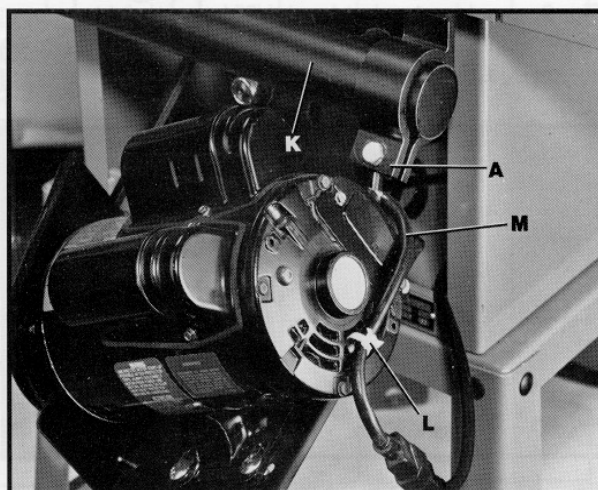

Fig. 13
1. Using a tie strap (L) Fig. 13 (not supplied), tie the switch cord (M) to the motor end bell as shown. Tilt the saw blade to the 45 degree bevel position and check to see if the switch cord (M) contacts any part of the support arm (K) or support arm bracket (A). **WARNING: SUCH CONTACT COULD RESULT IN AN ELECTRIC SHOCK/ELECTROCUTION HAZARD.** If the switch cord (M) Fig. 13, contacts any part of support arm (K) or support arm bracket (A), it will be necessary to replace the 3" diameter motor pulley (not shown) with a 2-1/4" diameter motor pulley available from Delta as Catalog No. 41-013.
2. **IMPORTANT: IF SWITCH CORD (M) FIG. 13, STILL CONTACTS ANY PART OF SUPPORT ARM (K) OR SUPPORT ARM BRACKET (A), AFTER REPLACING THE MOTOR PULLEY, CONTACT THE DELTA CUSTOMER SERVICES DEPARTMENT (TELEPHONE NO. 901-363-8800) FOR FURTHER IMPORTANT INFORMATION BEFORE OPERATING THE CONTRACTORS SAW.**